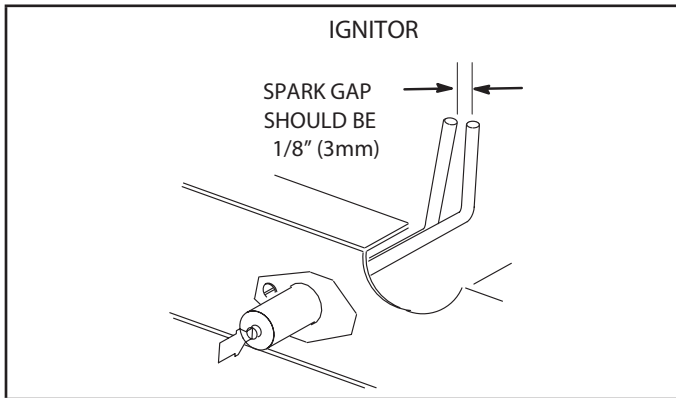

FIGURE 46
- 4 - Locate the ignitor under the left burners. Check ignitor spark gap with appropriately sized twist drills or feeler gauges. See FIGURE 46.
- 5 - Check the alignment of the ignitor and the sensor as shown in FIGURE 46 and TABLE 30.